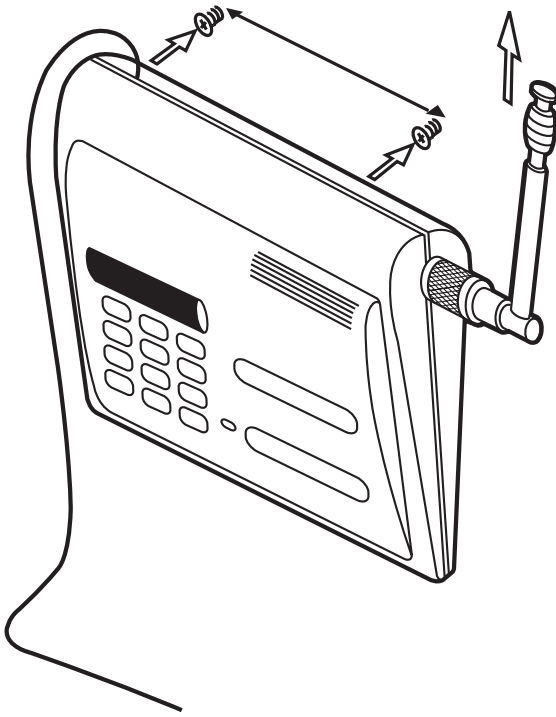

Figure 4-3. Connecting the Campus Pager to the mounted screws.
4. Align the keyholes on the back of the brackets with the two screws, then push in and press down to secure the Campus Pager to the wall. See **Figure 4-3**.